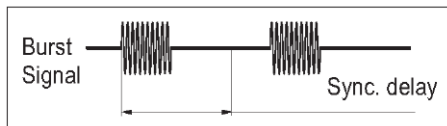

Fig. 4-3 Set the sync delay so that it expires in the gap between the bursts.
- Press **Sync Delay** and enter a value longer than the burst duration and shorter than the inverse of the PRF. See Fig. 4-3.
- Press **Sync Delay** and enter a value that is approximately 75 % of the modulating period. See Fig. 4-3.